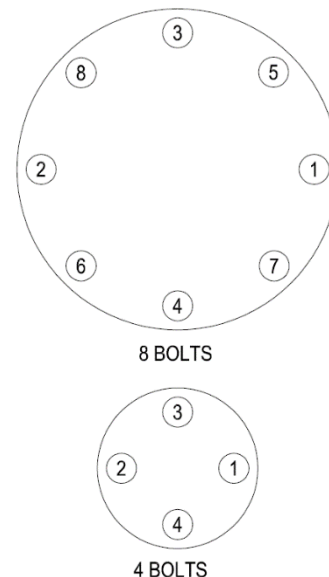

Figure 8 - Bolt Tightening Sequence
6. Using the crisscross pattern shown in Figure 8, apply torque in 4 steps of 25% increments. For example, if the torque required from Appendix A is 100 ft-lb, the torque should be applied in 25 ft-lb increments. Apply 25 ft-lb to each nut, then 50 ft-lb, then 75 ft-lb, etc. For larger quantities of bolts than shown below, use a similar crisscross pattern.